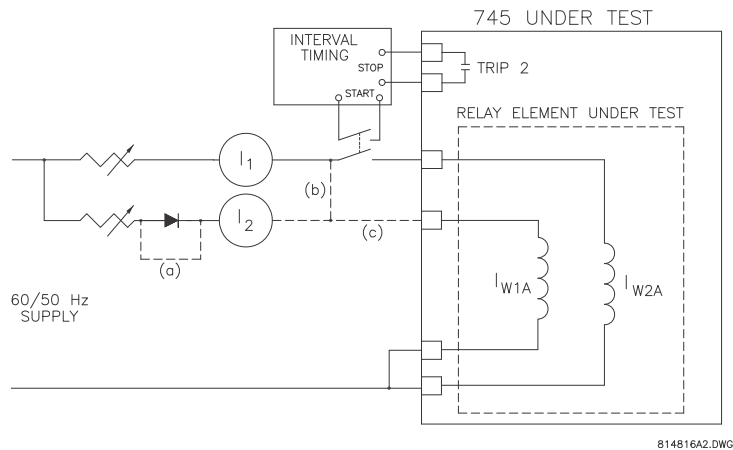

FIGURE 7-9: General test setup
- ▷ Using the setup shown in FIGURE 7-9: *General test setup* on page 7-25 and the Interval Timer enabled, set the current level to the desired value.
A simple verification the selected reset mode can be obtained using FIGURE 7-9: *General test setup* on page 7-25. The procedure consists of performing repetitive operating time measurements in quick succession. If the reset is selected for instantaneous, the operating time will always be equal to the nominal time derived from the selected curve. If the reset is selected as linear, the operating time will vary as a function of the time between successive application of the current signal. If performed at current multiples of 2 to 3 times the pickup level, the variations in operating time will be easier to detect.
To ensure that only the phase instantaneous overcurrent 1 element operates the trip relays (and any other output relays) selected by the logic, disable all protection features except phase instantaneous overcurrent 1. Use the general test setup shown in FIGURE 7-9: *General test setup* on page 7-25.
- ▷ Using the setup shown in FIGURE 7-9: *General test setup* on page 7-25 and the Interval Timer enabled, set the current level to 1.5 times the operating level of the element.
- ▷ Using a table like the one shown below, select three (3) or four (4) values of current multiples at which timing is to be measured.
- ▷ Using the setup in FIGURE 7-9: *General test setup* on page 7-25 and the interval timer enabled, set the current level to the desired value and apply suddenly by closing the double-pole switch.
A simple verification of the reset mode selected by **S4 ELEMENTS ▷ ▽ NEUTRAL OC ▷ W1 NTRL TIME OC ▷ ▽ W1 NEUTRAL TIME OC RESET** is obtained using the setup shown in FIGURE 7-9: *General test setup* on page 7-25. The test consists of repetitive operating time measurements in quick succession. If the reset is set for "Instantaneous", the operating time is always equal to the nominal time derived from the selected curve. If the reset is set as "Linear", the operating time varies as a function of the time between successive applications of current. The variations in operating time are easier to detect if this test is performed at current multiples of 2 to 3 times the pickup level.